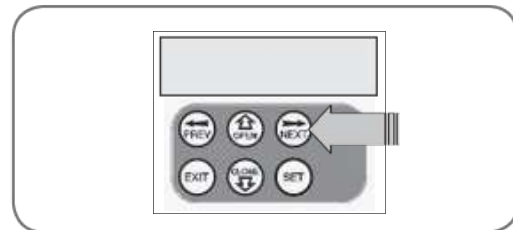
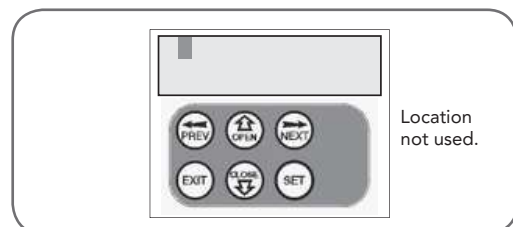

fig 32
fig 33
3. Press NEXT to enter transmitter list and edit mode (**Fig. 32**). The display will change as shown in (**Fig. 33**). This method is used if the transmitter is not available.